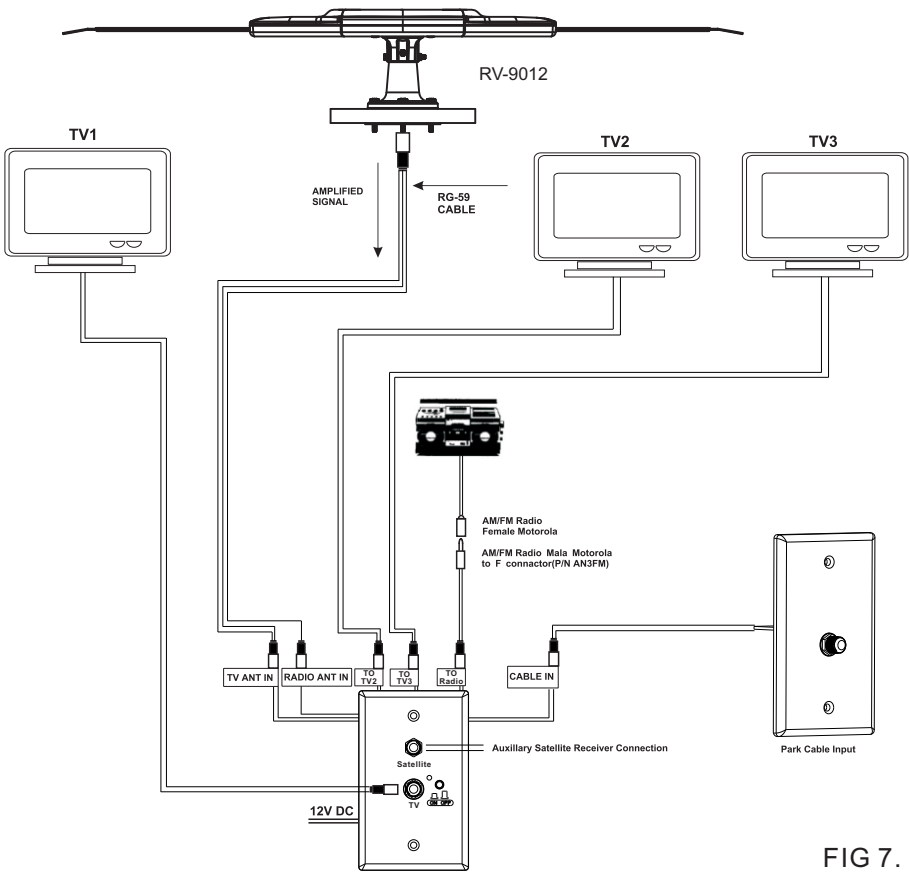

FIG 7.
**STEP 7:** Connect the appropriate cables and wires, and tape all the coax connections. Install the wall plate. (Refer to FIG 7.)